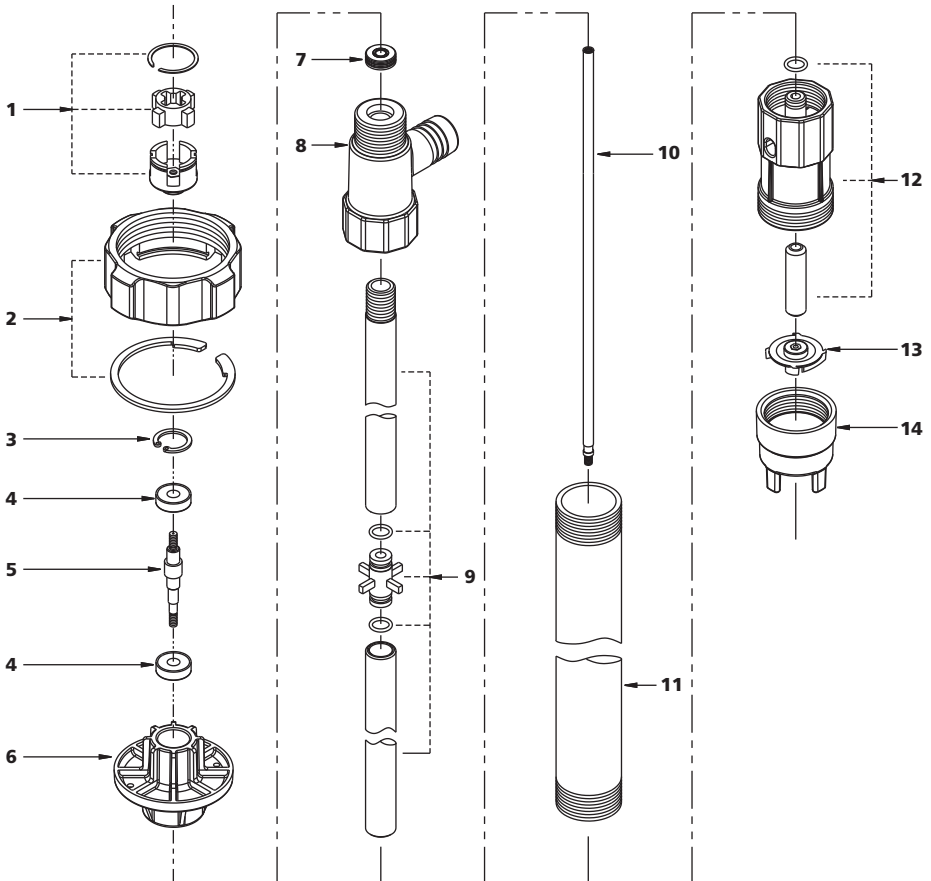

Figure 3 – Repair parts illustration for 5UWF3, 5UWF4 and 5UWF6
1. Disassemble impeller housing (figure 3, 4, ref #14) & impeller (figure 3, 4, ref #13) by unscrewing
2. Remove conversion chamber (figure 3, 4, ref #12) and outer tube (figure 3, 4, ref #11) by unscrewing
3. Disassemble inner tube assembly (figure 3, 4, ref #9)
4. Remove shaft from inner tube assembly by unscrewing (figure 3, 4, ref #10).
6. Rotate the bearing shaft (figure 3, 4, ref # 5) counterclockwise by inserting the screwdriver through the drive coupling assembly (figure 3, 4, ref # 1) into the slot while holding the slot.
7. Disassemble the discharge port housing (figure 3, 4, ref # 8) by unscrewing.
8. Take out the mounting ring (figure 3, 4, ref # 2).
9. Move out mounting ring from bearing housing (figure 3, 4, ref # 6)
1. Move bearing (figure 3, 4, ref # 4) on bearing shaft (figure 3, 4, ref #5) and then assembly bearing shaft and bearing into bearing housing.
2. Assemble mounting ring (figure 3, 4, ref # 2) into bearing housing.
4. While positioning the seal (figure 3, 4, ref # 7) correctly on the bearing shaft, assemble discharge port housing (figure 3, 4, ref #8) to the bearing housing.
6. Move in the inner tube assembly (figure 3, 4, ref # 9) onto the shaft and assemble into the discharge port housing (figure 3, 4, Ref #8) by screwing.
8. Assemble outer tube (figure 3, 4, ref #11) into discharge port housing and assemble conversion chamber (figure 3, 4, ref # 12) to the outer tube by screwing.
9. While holding the shaft, assemble the impeller (figure 3, 4, Ref # 13) and then assemble impeller housing (figure 3, 4, ref # 14) to the conversion chamber by screwing.